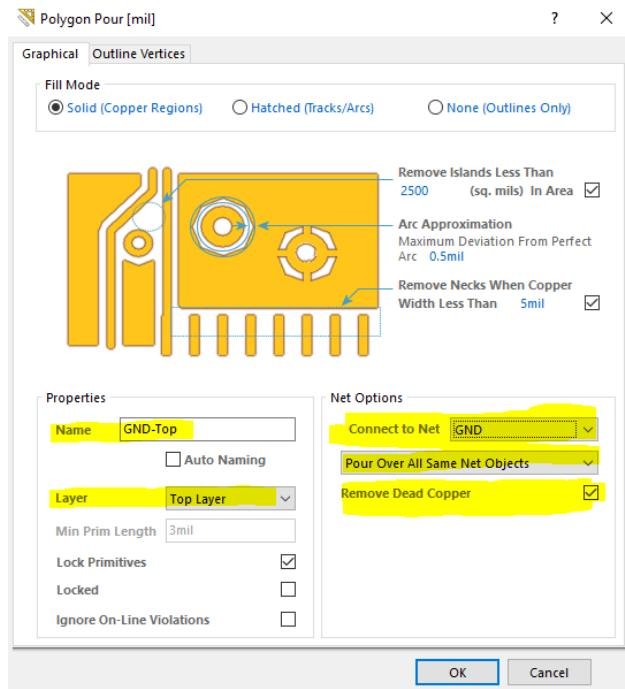

Figure 85: Altium PCB Polygon Pour Dialog.
50. A Polygon Pour can be placed by pressing P than G which opens the Polygon Pour dialog as shown in Figure 85. There you can specify a Name the Layer applied to Connected to what Net in this case GND, select Pour Over All Same Net Objects, and check Remove Dead Copper which is really important! Place a polygon pour on the top layer and one on the bottom layer.